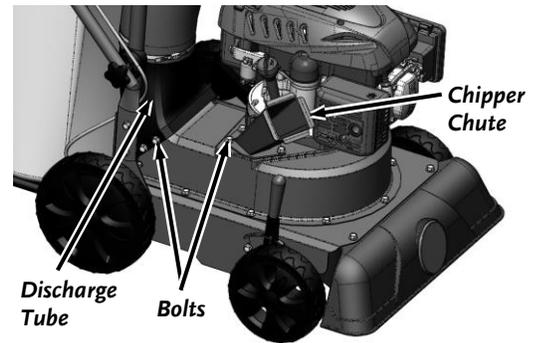

Figure 38
1. Remove the three Bolts that secure the Chipper Chute to the Housing using a 1/2" Wrench (**Figure 38**). Remove the Discharge Chute from the Frame and set it aside to gain access inside the Impeller Housing.